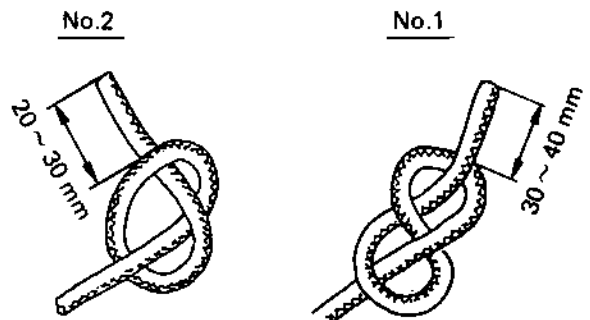

Fig. 71
- 1) First, have the starter rope pass through the starting knob, and tie the rope as shown in Fig. 71 No.1.
Then, have the opposite side of the rope pass through the starter case and the reel, and tie it as shown in Fig. 71 No.2. Then surely house the end in the reel. (In the Fig. 71 both the ropes are tied quite lightly, as you see in figures No.1 and No.2. Please note this is just for the purpose of easy understanding. Therefore, when actually tying, tie the rope as tightly as possible.